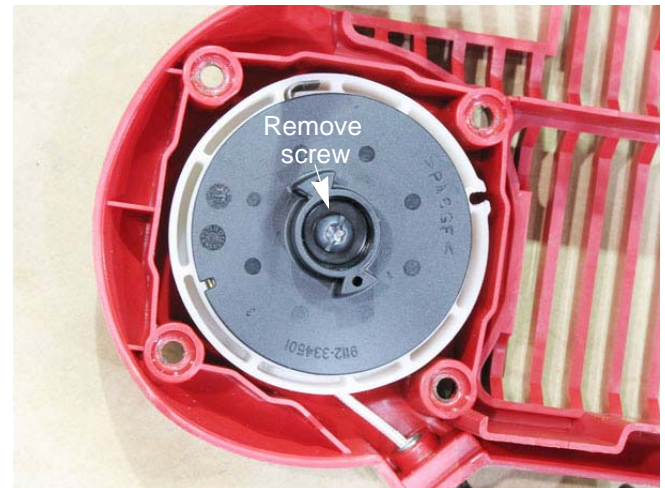

Figure 8.3
5. Remove the screw in the starter pulley with a T-25 torx driver. See Figure 8.3.